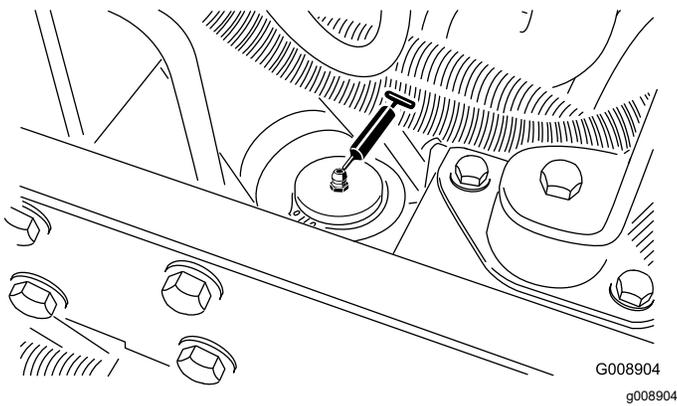

Figure 66
- Steering cylinder (Figure 66).